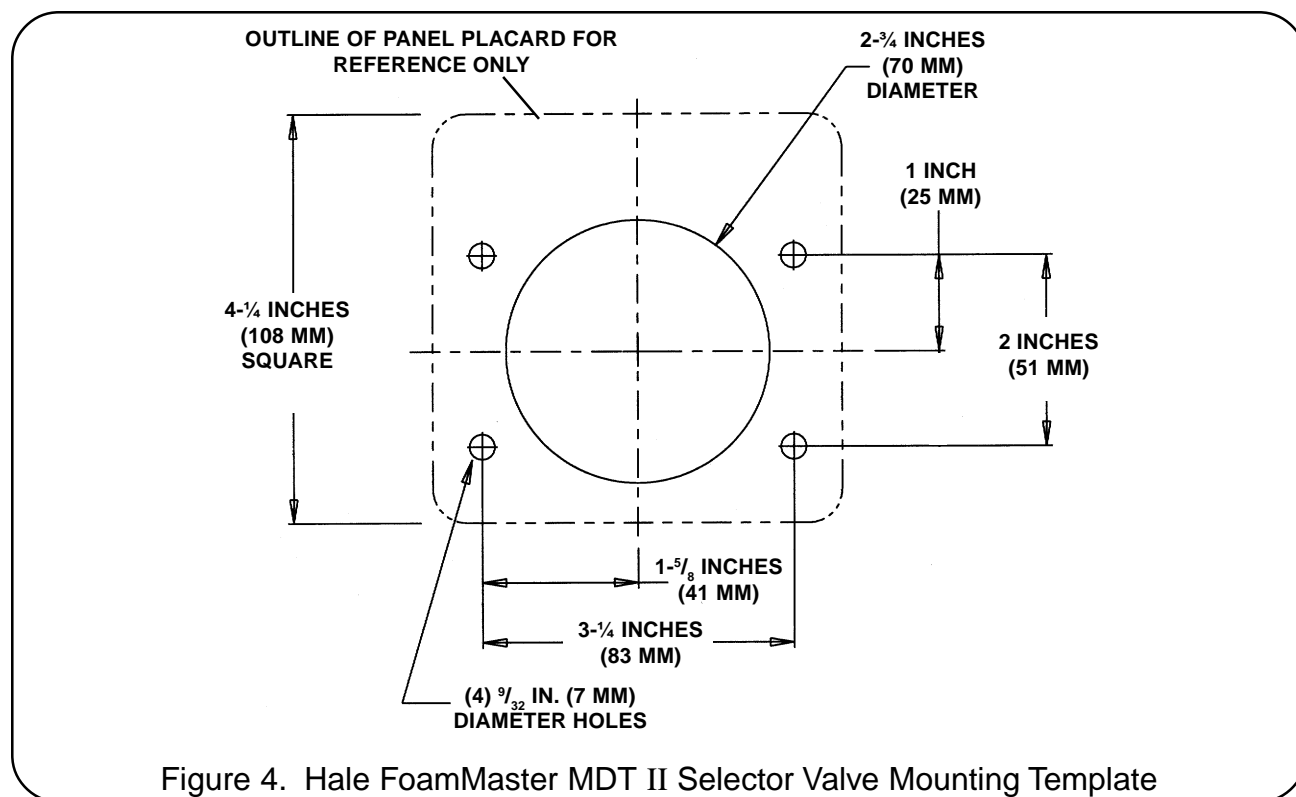

Figure 4. Hale FoamMaster MDT II Selector Valve Mounting Template
3. Using the nameplate as a template mark the location of mounting holes on the operator panel. Make sure there is sufficient clearance behind the operator panel where the Hale FoamMaster MDT II is to be mounted (Refer to figure 2). Verify mounting hole location and size using figure 4.